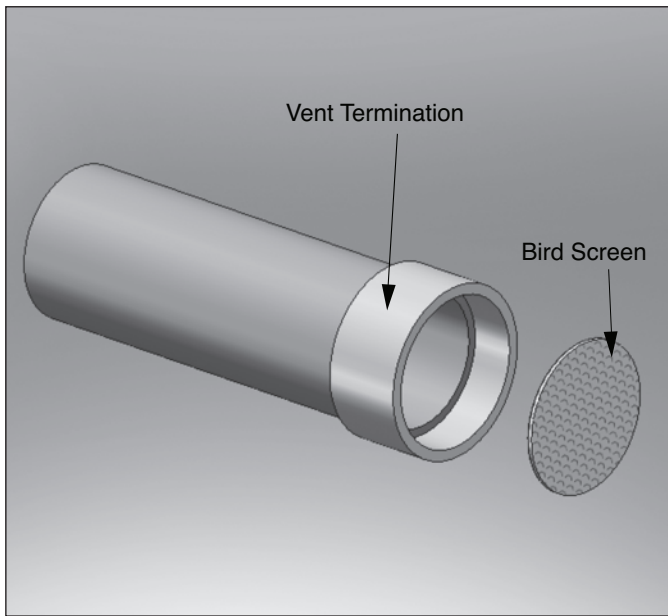

Fig. 16: Horizontal Vent Bird Screen Installation with Coupling Termination
1. The vent and combustion air terminations must include a factory supplied "bird screen" installed as shown in Figs. 16 through 19 page 21.